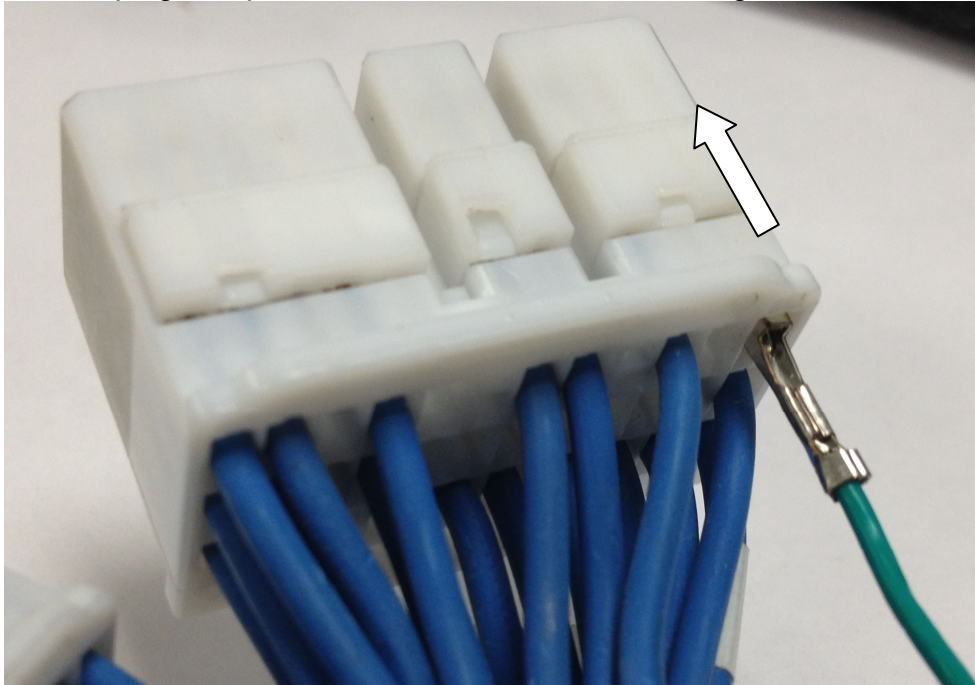

Figure 11: Pushing pin into ECU plug
5. To install the harness into the ECU plug, align the CANL and CANH pins into the receptacle of the plug and push in until it clicks as shown in figure 11: